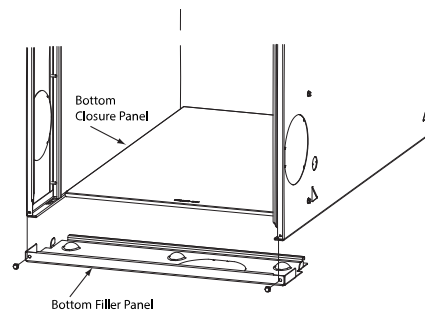

Fig. 9 – Removing Bottom Closure Panel
1. Tilt or raise furnace and remove two screws holding bottom filler panel, see Fig. 9.